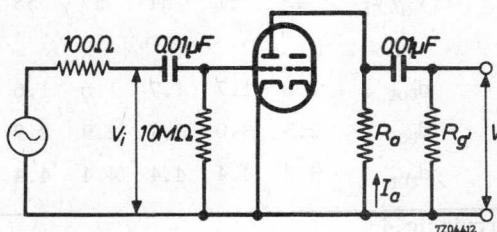

Fig.2
A.F. amplifier - circuit fig.2.
A.F. amplifier - circuit fig.2. (continued)